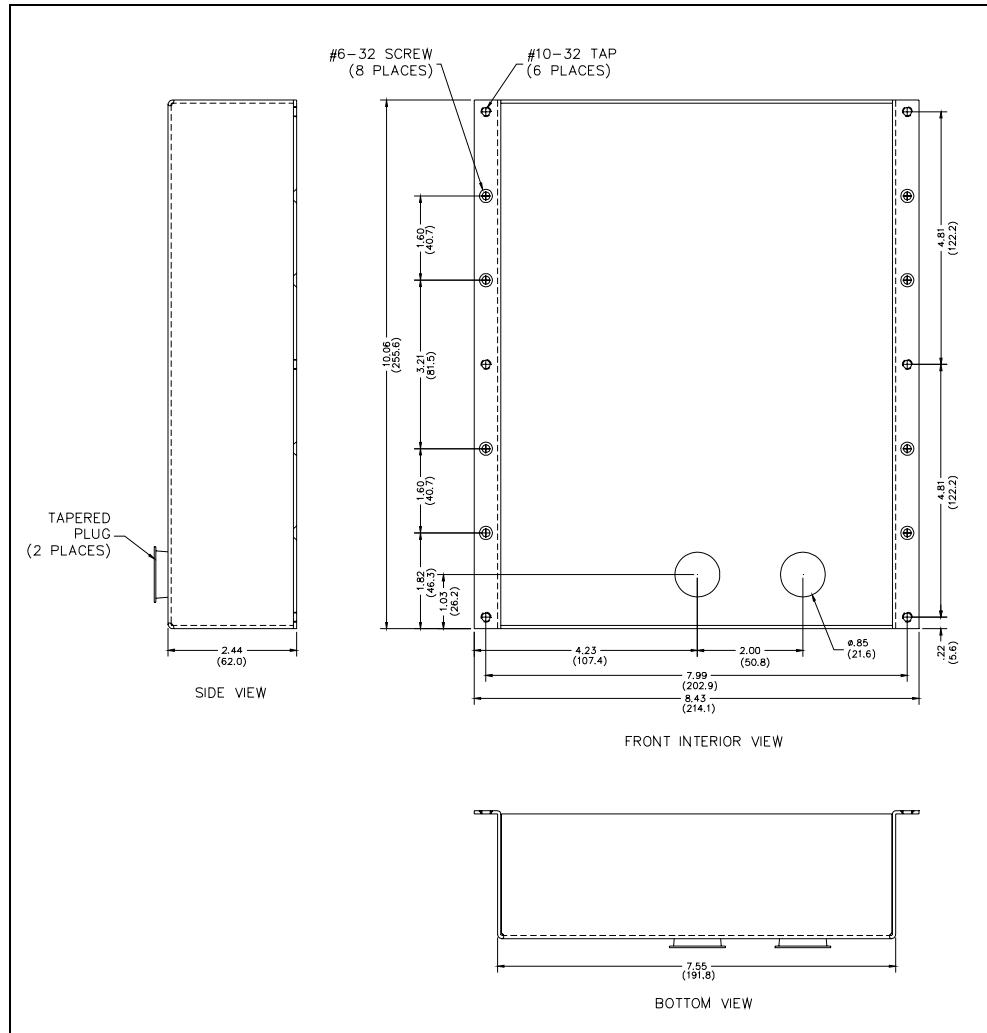

Figure 11. Model 276-700 Mounting Details
1. When mounting in a GAI-Tronics Model 234 Series Stanchion or for flush-mount installations, the supplied back box must be used to mount the Model 276-700 Telephone. Mount the back box to the structure using the appropriate hardware. Refer to Figure 11 cutout dimensions.
6. Use the supplied back box to mount the Model 276-700 VoIP Telephone in flush-mount applications or in a GAI-Tronics Model 234 Series Stanchion. Mount the back box to the structure using the appropriate hardware. Refer to Figure 11 cutout dimensions.